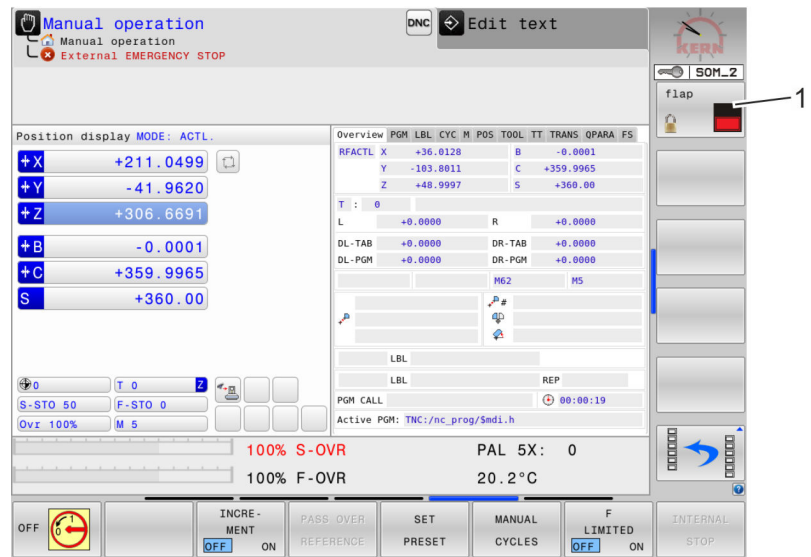

Fig. 94: Service menu
**8.** Press the [external workpiece changer flap] softkey (Fig. 94/1).